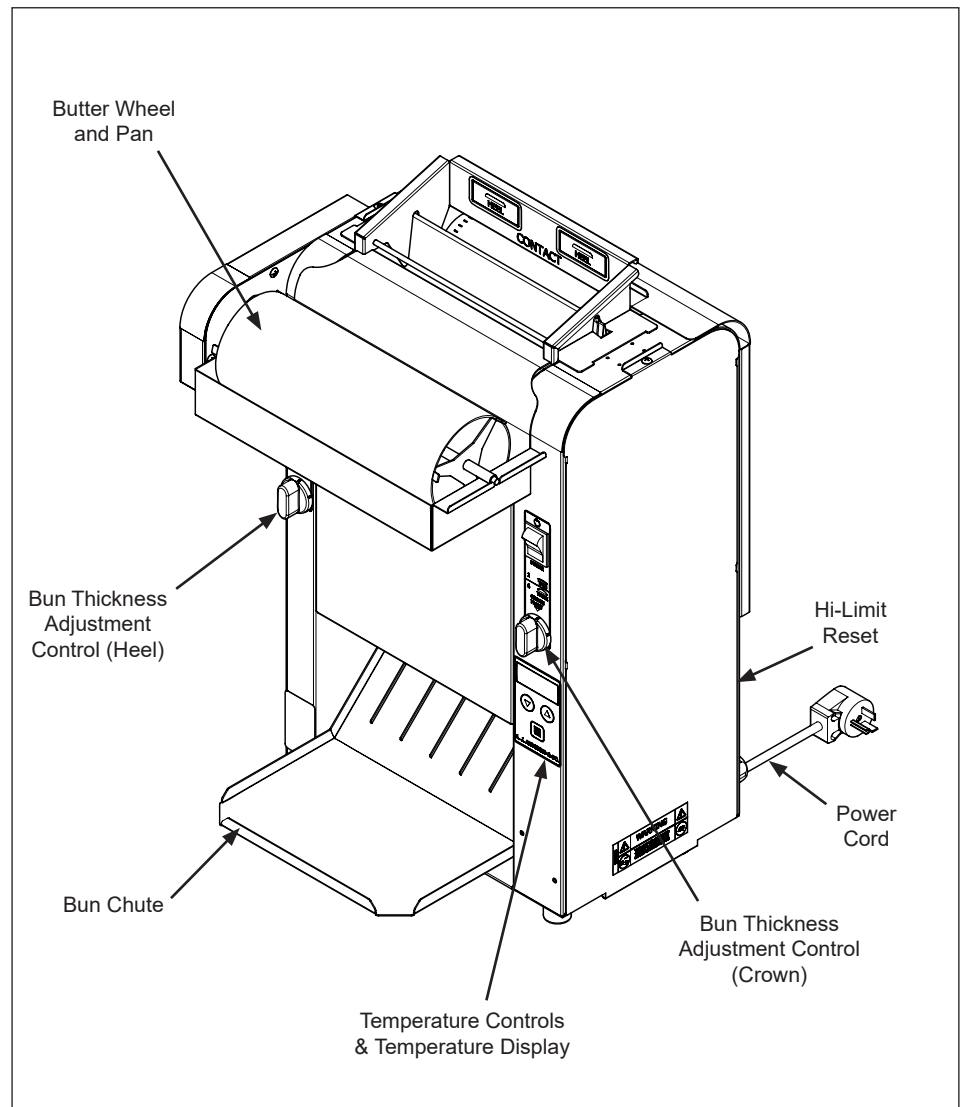

Figure 3. VCTM-2 Toaster
1. Set the Bun Thickness Adjustment Controls (Figure 3).
**NOTE:** The display (Figure 3) flashes "LO" during warm-up. "USE" appears when the toaster is ready for use.
6. Toasted buns drop onto the Bun Chute (Figure 3).
A Hi-Limit Control turns off power to the unit if it overheats. To reset the control, allow the unit to cool, then locate the Reset Button at the rear of the unit. Remove the black protective cap, press the Reset Button, and reinstall the protective cap (Figure 3).